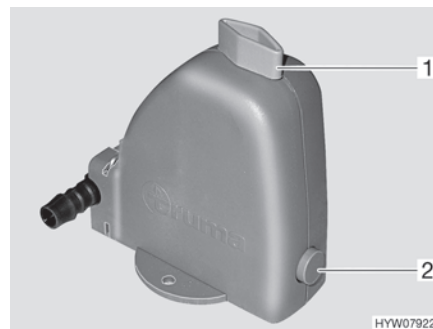

Fig. 127 Safety/drainage valve
The heater is equipped with a safety/drainage valve (Fig. 127). The safety/drainage valve prevents water for the production of hot water from freezing, when there is frost and the heater is not switched on.
- Close the safety/drainage valve. Turn the knob (Fig. 127,1) perpendicular to the safety/drainage valve and push the push button (Fig. 127,2) in.
- Open the safety/drainage valve. To do this turn the knob (Fig. 127,1) parallel to the safety/drainage valve. The push button (Fig. 127,2) jumps out. The domestic water container is emptied to the outside through the safety/drainage valve.